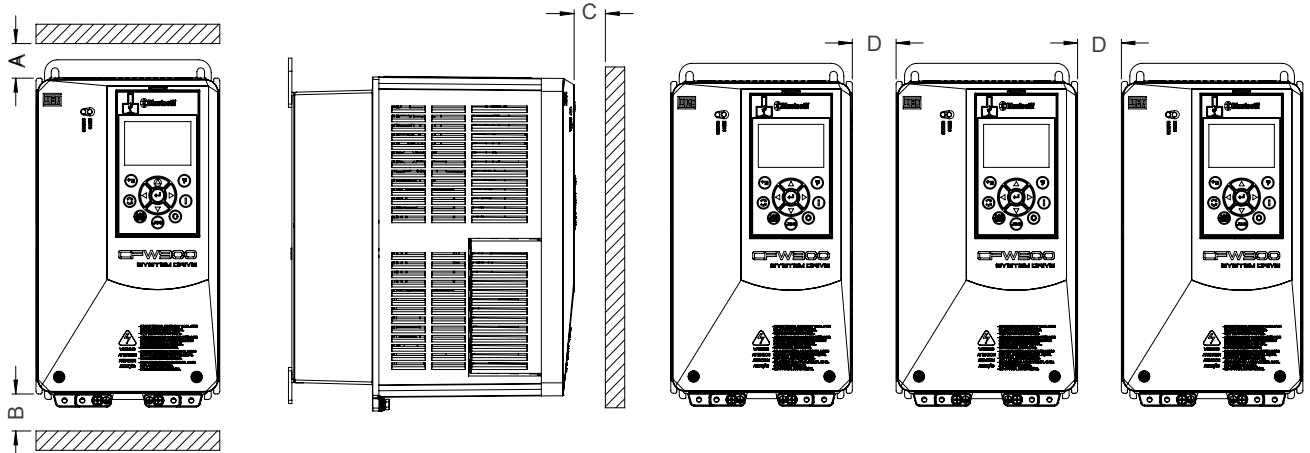

Figure 3.2: Free clearances for ventilation
Minimum mounting clearances requirements for proper cooling air circulation are specified in Figure 3.2 on page 21 and Table 3.3 on page 21.
- When one inverter is installed above another, use the minimum distance  $A + B$ , as shown in Figure 3.2 on page 21, and divert the hot air blown by the lower inverter from the upper inverter.